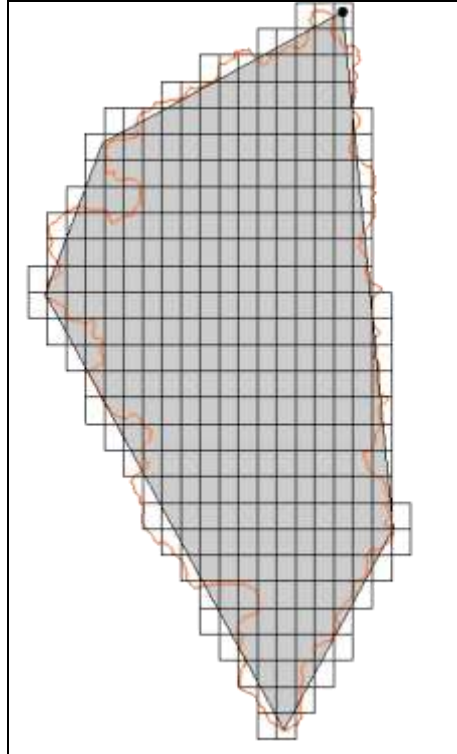

Figure 20 UGrid created in area of conceptual model
4. Accept the defaults for everything else and click **OK** to close the *Map → UGrid* dialog. The project should appear similar to Figure 20.